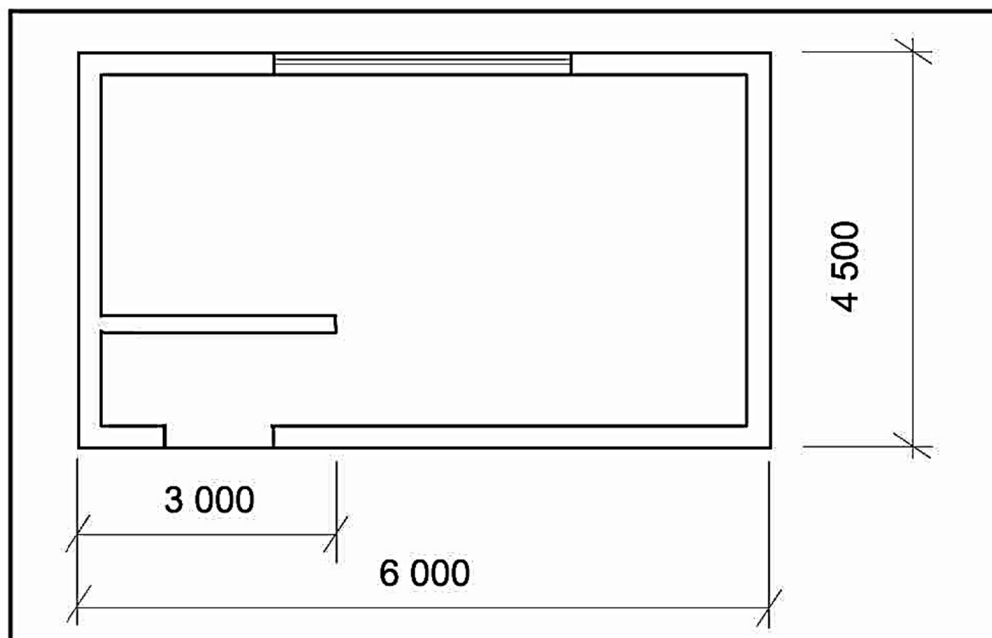

FIGURE 3.2
- 3.2 FIGURE 3.2 below shows the floor plan of a store room with a window and an opening for a door.